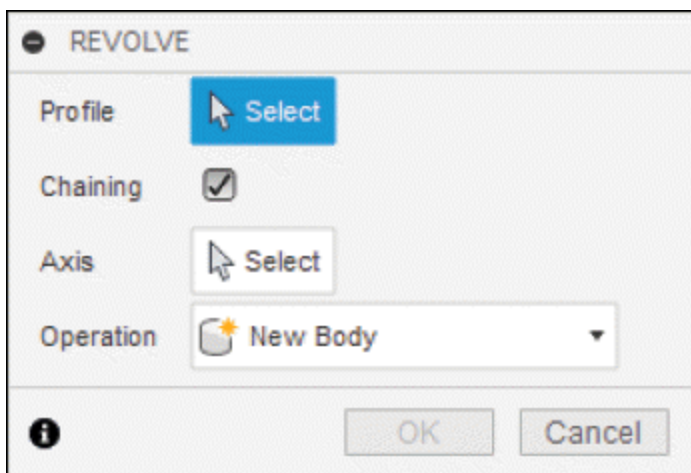

Figure-38. Revolve dialog box
- Click on **Revolve** tool of **CREATE** drop-down from **Toolbar**. The **REVOLVE** dialog box will be displayed; refer to Figure-38.